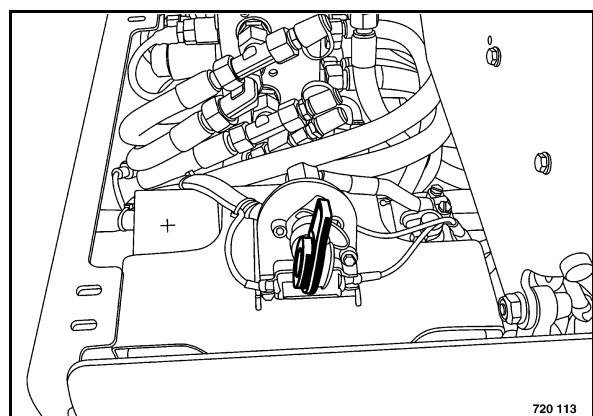

Fig. 70
- The main battery switch (Fig. 70) must be switched on.